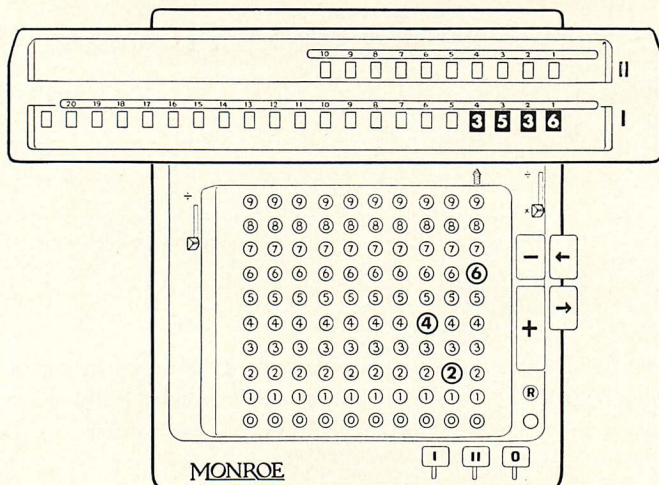

Figure 25
*Step 4*—On the keyboard set the next multiplier, 427, LESS 1, or 426. The reason for dropping the 1 is that 3536 is already in the lower dials, which is the same as being multiplied by 1. Figure 25 shows the Monroe at this step.